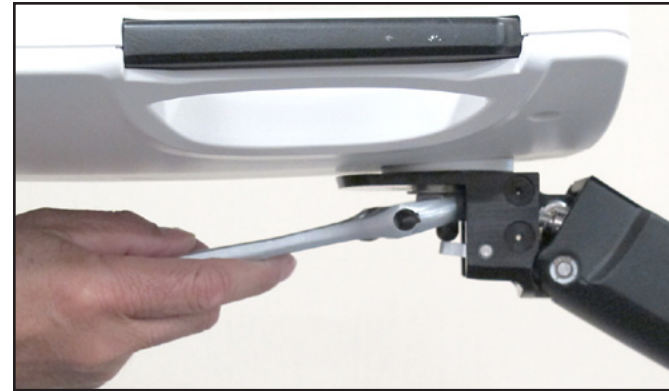
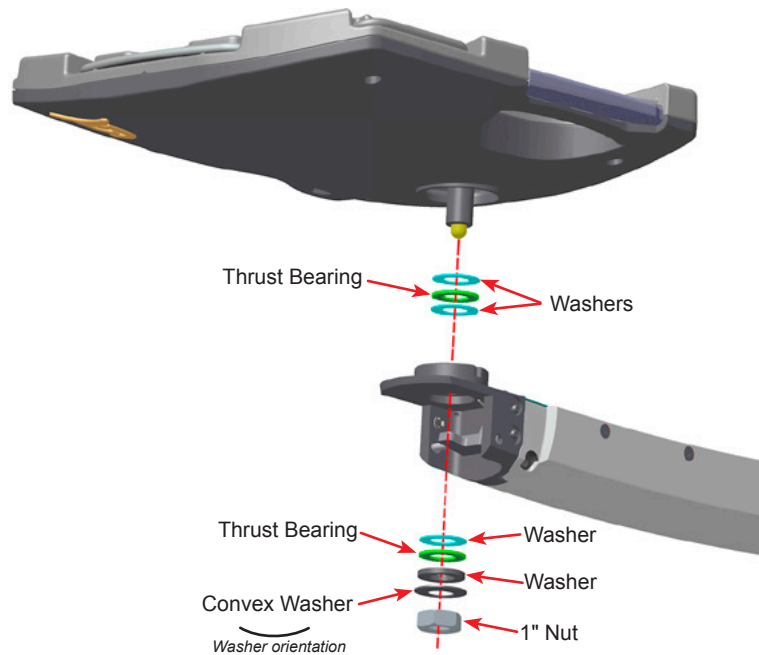

Figure 3-18 Tray Assembly Nut Removal
Figure 3-19 Washers and Bearings used to attach Tray Assembly to the Tray Arm
- 23.3 Remove 1 inch nut securing Tray Assembly to Arm (see Figure 3-18). Be aware that there are washers and bearings behind the nut that may drop as the nut is removed (see Figure 3-19).
There are five washers and two bearings used to attach the tray assembly to the arm (see Figure 3-19). Ensure these washers and bearings are installed in the proper orientation otherwise the Tray Arm Assembly may not function properly.